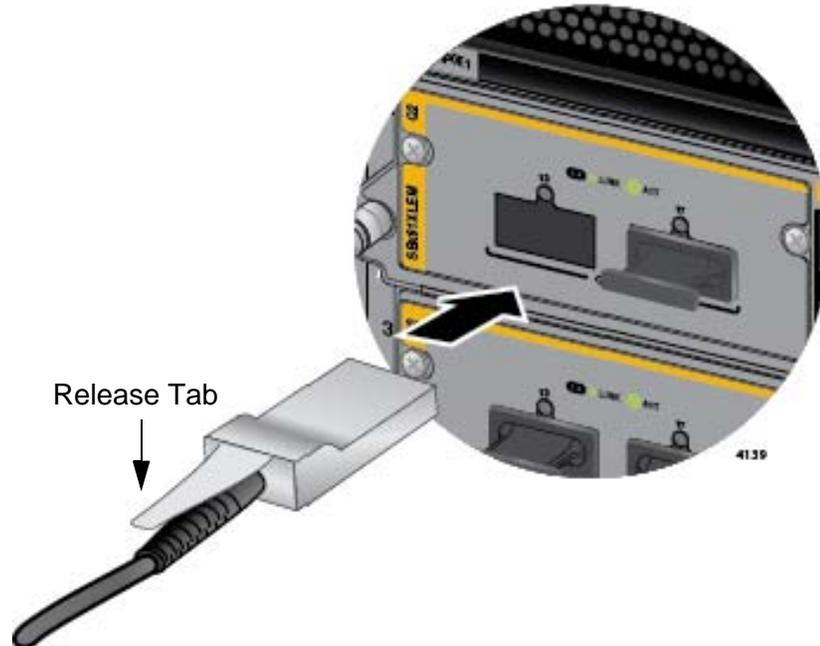

Figure 104. Sliding the AT-QSFPCU Cable into the Slot
2. Orient the connector on the AT-QSFPCU Cable with the release tab on top and slide it into the slot until it clicks into place. Refer to Figure 104 on page 167.